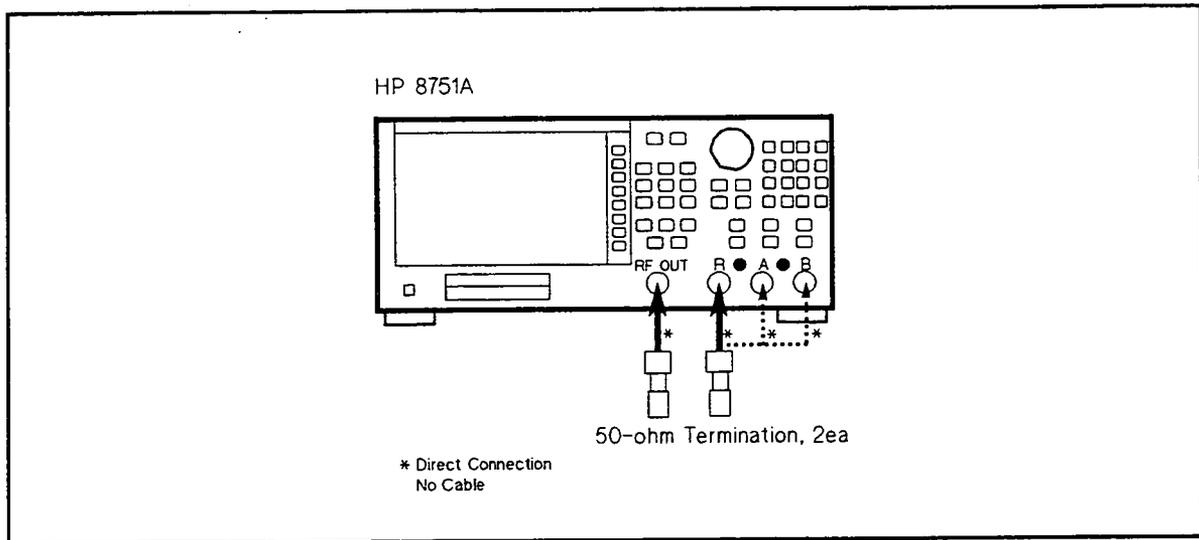

Figure 2-11. Residual Response Test Setup
1. Connect a 50  $\Omega$  Termination to HP 8751A INPUT R, as shown in Figure 2-11.